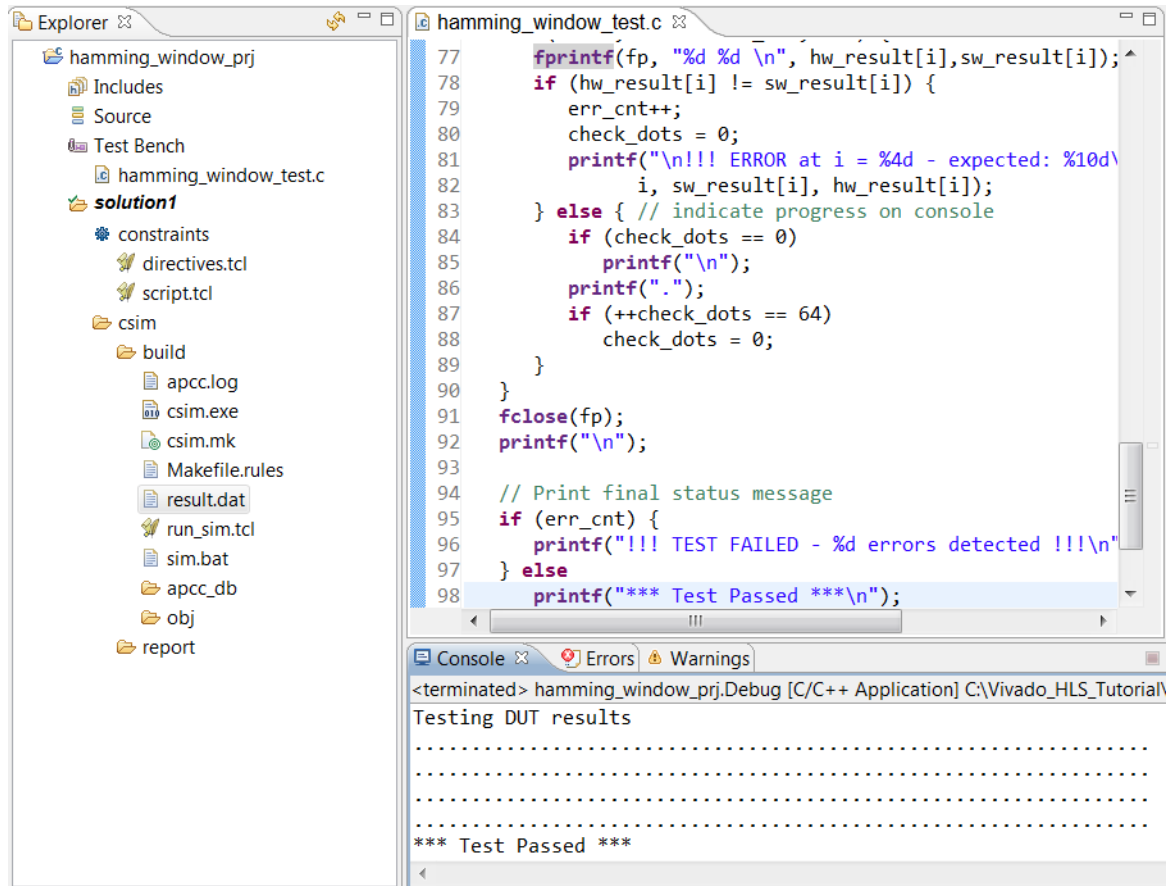

Figure 3-6: C Simulation Results
As shown in Figure 3-6, the following actions occur when C simulation executes:
- The C simulation executes in the solution subdirectory `csim`. You can find any output from the C simulation in the build folder, which is the location at which you can see the output file `result.dat` written by the `fprintf` command highlighted in Figure 3-6.